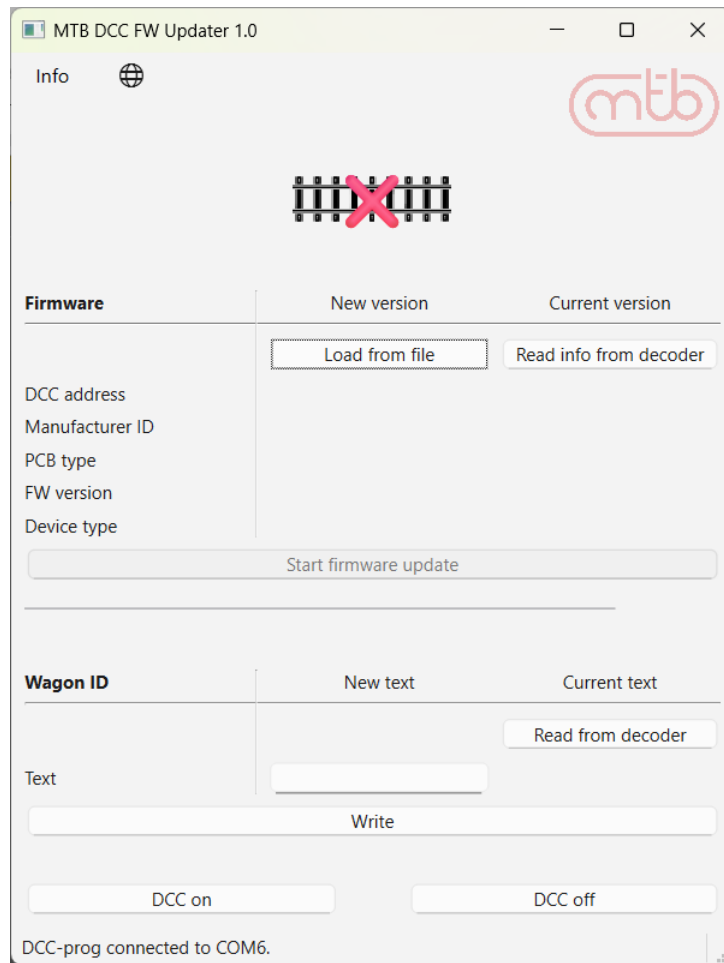

Fig. 6: Application with connected DCC-prog, without connected DCC decoder
3. Verify the application has access to the DCC-prog: Status bar ① shows "DCC-prog connected to COMx." and indicator ② shows symbol  meaning that DCC-prog doesn't detect any connected DCC decoder. This state corresponds to Fig. 6. The green LED on the DCC-prog glows brightly.
4. Connect the DCC decoder to the DCC-prog output signal. Indicator ② changes from  to .
5. Load decoder information using button ④.
6. Open the dialog with button ③ and select the file with the new FW for the decoder type.
7. Start writing the new FW using button ⑤.
8. After writing completes, information about the new FW is automatically loaded from the DCC decoder into field ④. Verify the FW version matches.¹